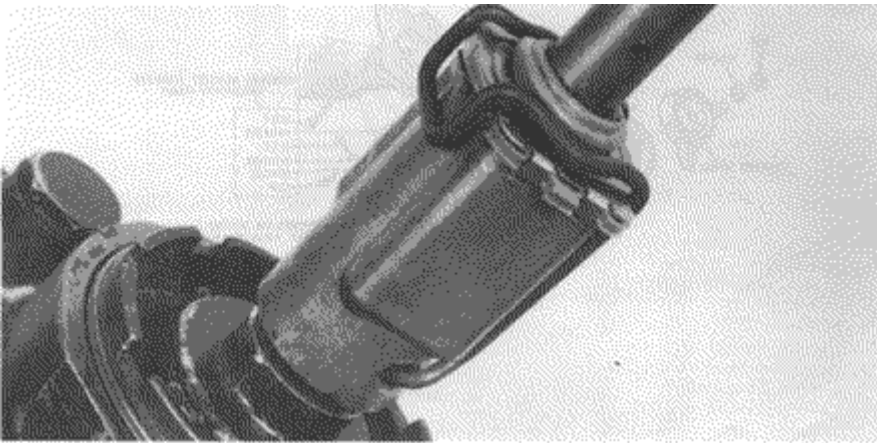

**FIGURE 5: STEERING COUPLING CLAMP INSTALLATION**
4. Force clamp down over cover. (Figure 5)